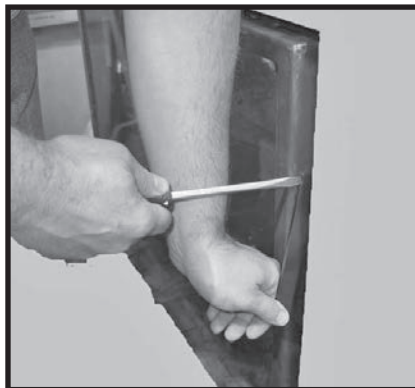
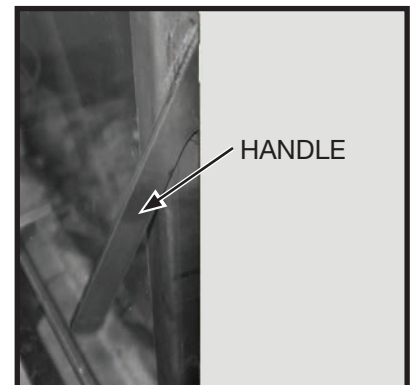

Figure 5: Accessing handle.
Figure 6: Handle.
3. Using a screwdriver (Figure 5) or other similar object, push against the notch in the top of the latch and grab the bottom of the latch handle as it protrudes (Figure 6). Lift handle until latch hook disengages. Repeat for other side while holding glass so it does not tip out.